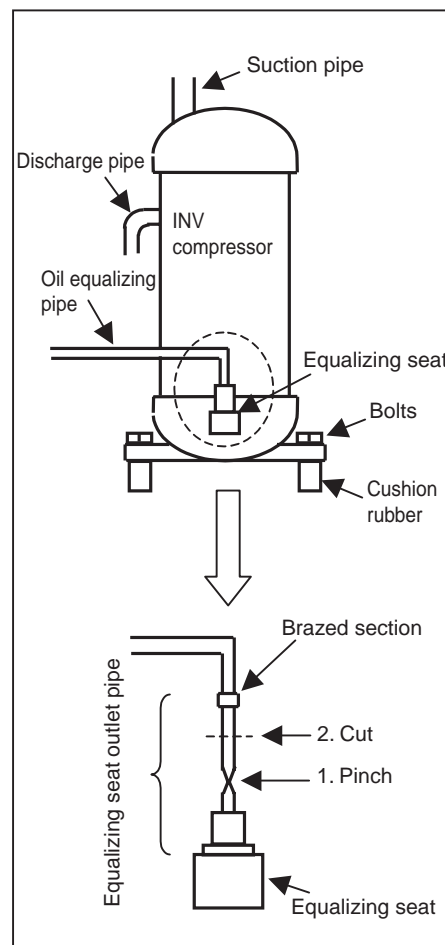
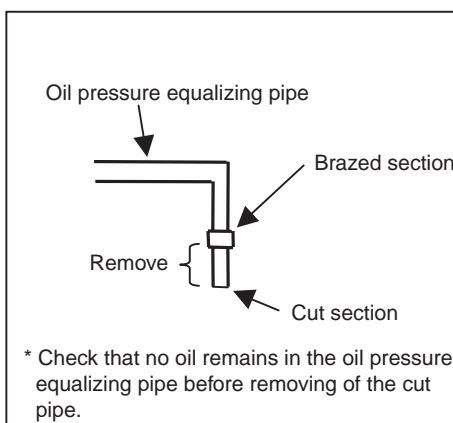

Fig. 1
Fig. 2
- (2) Remove the sound insulator mat covering the faulty compressor, and disconnect the power cable from terminal board of the compressor.
- (3) Disconnect the brazing sections of suction pipe and discharge pipe by using brazing torch after the refrigerant has been collected completely.
- (4) Pinch the oil pressure equalizing pipe of the faulty compressor at the lower part of the brazed joint as shown in figure 1, and cut it between the pinched section and brazed joint in order to prevent residual oil from discharging.
- (5) Remove three bolts at cushion rubber section to take out the faulty compressor outside the unit.
- (6) Check that no oil remains in the oil pressure equalizing pipe as shown in figure 2, then remove the cut pipe from the brazed joint with brazing torch.
- (7) Install the new compressor in the unit.